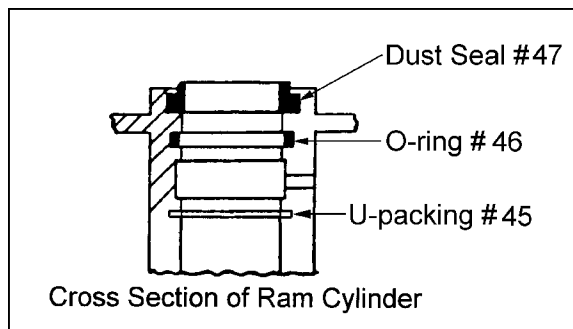

Figure 5
2. Remove spring pin (82). This will free the pump and handle assembly from the pallet truck.
3. Remove the oil plug (50), turn pump over and empty the oil into a suitable container. Pump handle until all oil has drained. Dispose of used hydraulic oil according to local disposal regulations.
4. Pull out plunger piston (37) and/or ram piston (48).
5. Remove all o-rings and seals. See Figure 5.